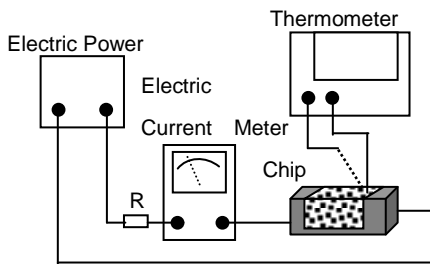

Fig. 5.3.3-1
- d. Definition of Rated Current (Ir): Ir is direct electric current as chip surface temperature rose just 20°C against chip initial surface temperature (T_a) (see **Fig. 5.3.3-2**)